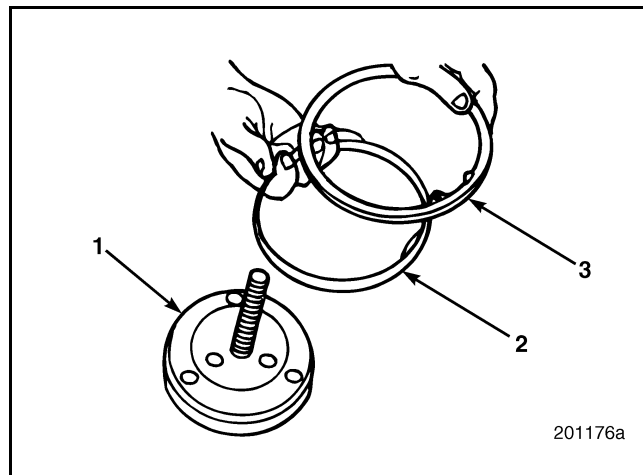

Figure 342 — Crankshaft Rear Oil Seal Installation
2. Position the oil seal and installation sleeve onto the recessed side of the J 37716-B oil seal installation tool adapter plate as shown in Figure 342. The single-lip seal must be installed with the lip toward the engine.